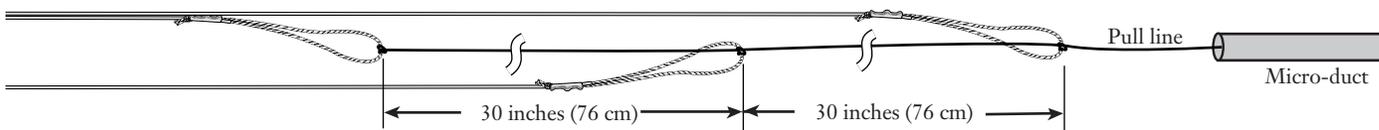

Figure 14
8.4 Tie up to three single-fiber cables to the same pull line. Stagger the tie-points by spacing them at least 30 inches (76 cm) apart to allow for easy transition of the attachment point around bends and sweeps (Figure 14).